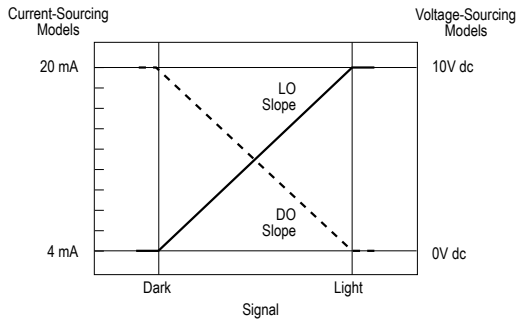

Figure 2. Analog output as a function of target position – two-point static or dynamic TEACH
Two-point static or dynamic TEACH: The sensor sets the first taught condition to the highest output level (either 20 mA or 10V), and the second taught condition to the lowest level (either 4 mA or 0V), and scales between these points. If the first condition taught has more returned light, the sensor will be in Light Operate mode (LO). If the first taught condition is darker, the sensor will be in Dark Operate mode (DO). To change the slope of the analog output (refer to Figure 2. Analog output as a function of target position – two-point static or dynamic TEACH on page 4), toggle LO/DO in Sensor Setup on page 12.